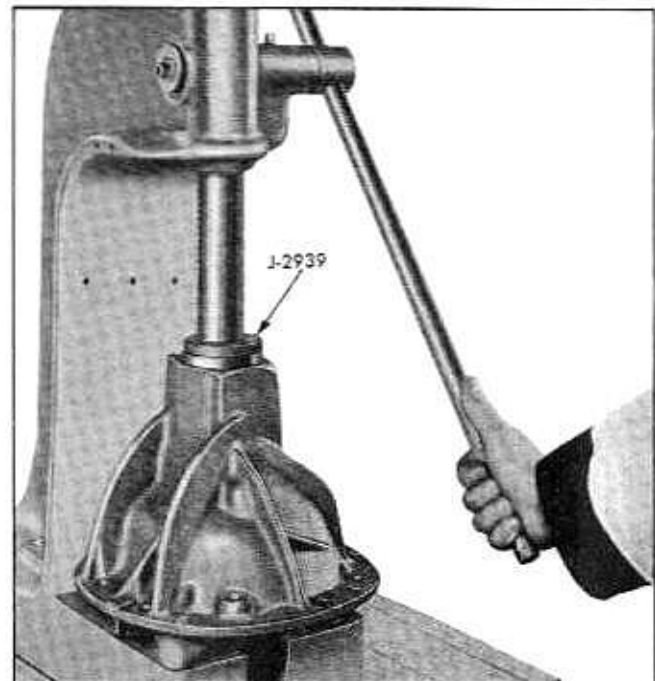

Fig. 4-34 Installing Front Bearing Outer Race With Installer J-2939
18. If pinion front bearing was removed, press outer race firmly into place against shoulder in carrier using Installer J-2939 (Fig. 4-34) and Handle J-2940 if required.